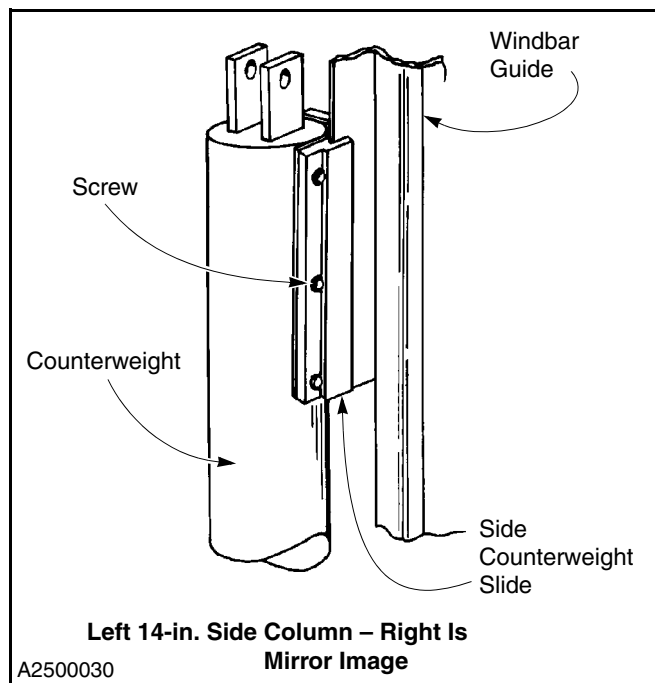
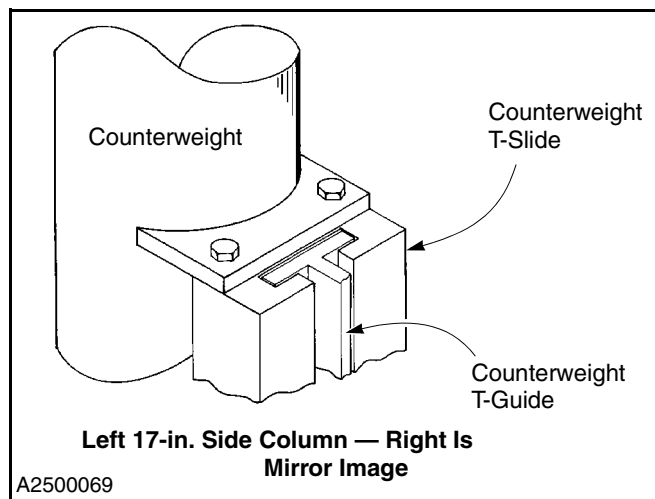

Figure 29
Figure 30
2. Check to ensure that all counterweight slides are properly attached and correctly placed in their respective mounting brackets. (See Figure 29 and Figure 30.)